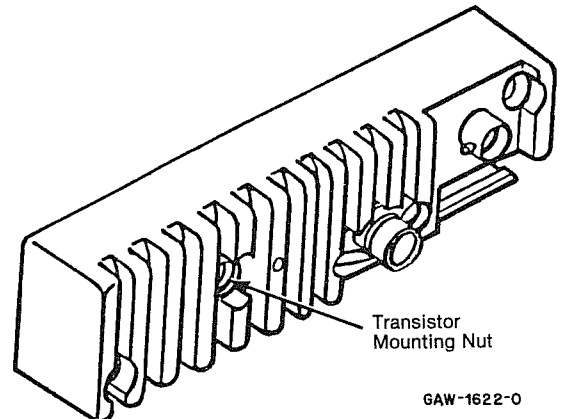

Figure 16
(2) Remove the transistor mounting nut from the back of the heat sink (Figure 16).